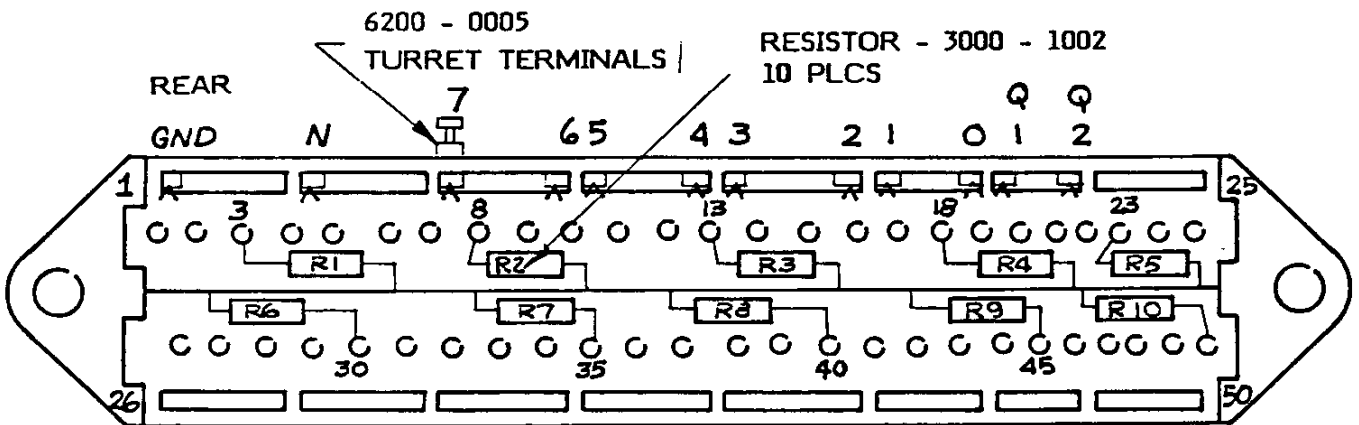

Figure 6.26 Alignment Housing B Resistor Placement
4. Solder resistors to common bus wire as shown in Figure 6.26.